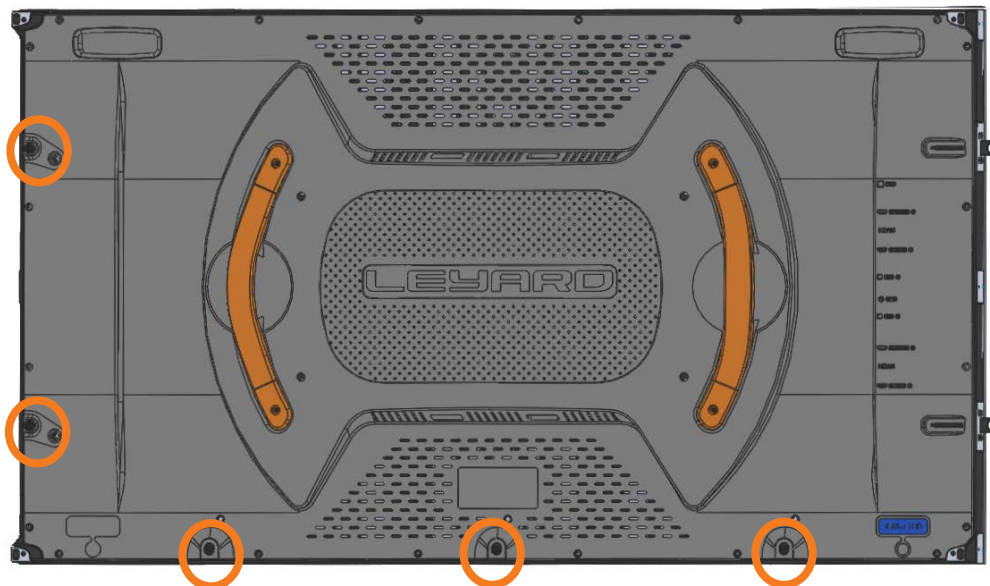

Figure 6. ½ turn fasteners are circled in orange.
- 8 Verify that the ½ turn fasteners on the cabinet are released. See Figure 6. If they are not released, use the square drive 7mm L-Wrench to turn them ½ turn and allow them to extend. Fasteners are spring loaded and should extend easily.
- Check that the ½ turn fasteners are released as shown in Figure 6.